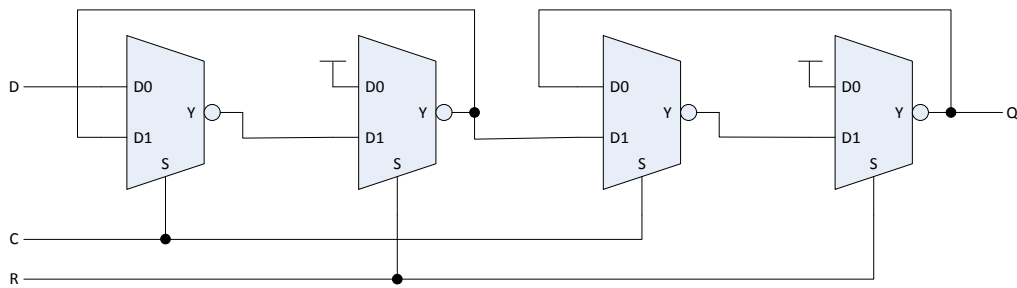

Figure 2 – Flip-flop Created from Inverting MUXes
- 2) Create a 2-input NAND gate, inverter, and positive-edge triggered flip-flop from the inverting mux, in structural style modeling. The inverter and NAND gate simply use one or two of the inputs and strap the others to power or ground to form the correct function. The flip-flop is a little more complicated, so it has been provided in the figure 2 below. It is advised that you label each node in this figure with a “wire” name and build the structural model using those wire names.